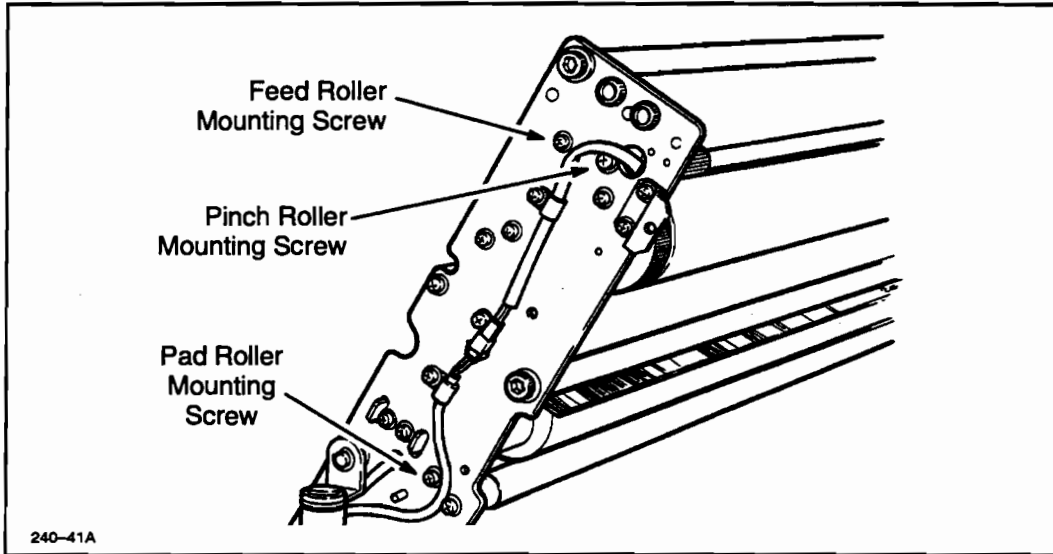
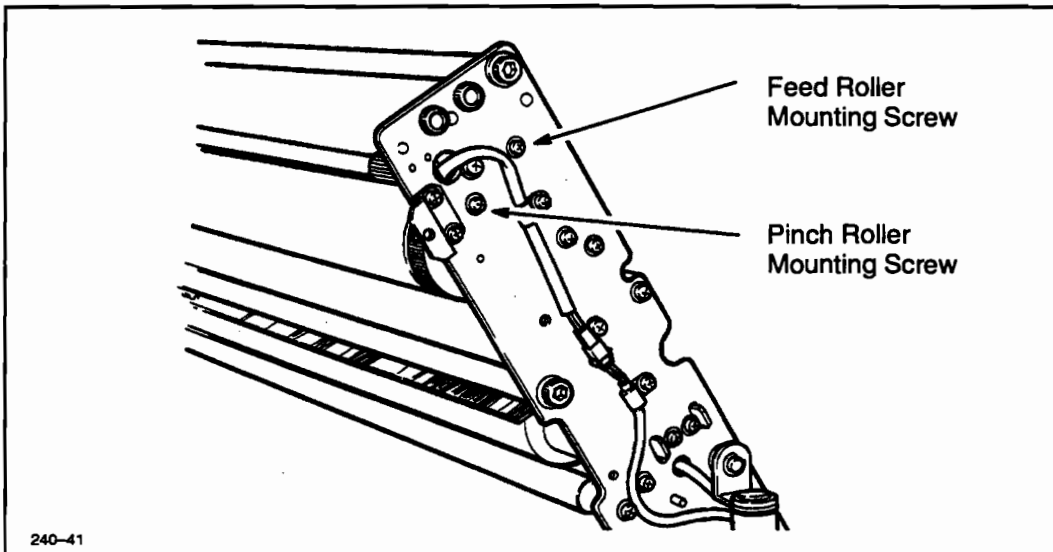

Figure 6-71. Feed Roller Tension Spring
Figure 6-72. Feed Roller Assembly Removal
5. Using a #2 Phillips screwdriver, remove the left- and right-side shaft pivot arm screws. See Figure 6-71 and Figure 6-72.